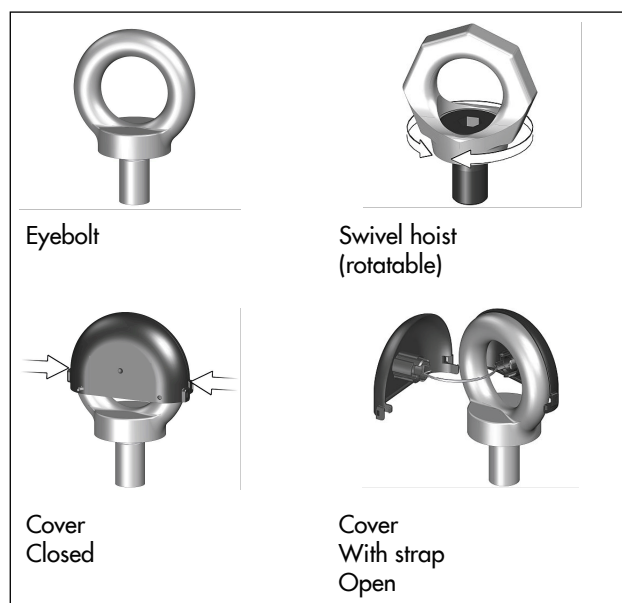

Fig. 7: Strap on eyebolt/swivel hoist
1. Open the eyebolt cover by lightly pressing the side clips and remove it (see Fig. 7).
6. Remove slings after mounting and replace the cover on the eyebolt (see Fig. 7).